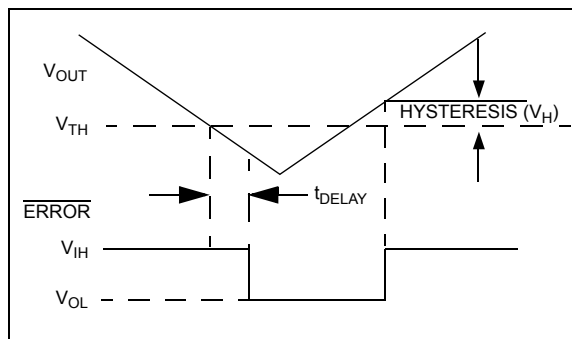

FIGURE 4-2: $\overline{ERROR}$ Output Operation.
$\overline{ERROR}$ is driven low whenever V_{OUT} falls out of regulation by more than -5% (typical). This condition may be caused by low input voltage, output current limiting, or thermal limiting. The $\overline{ERROR}$ output voltage value (e.g. $\overline{ERROR} = V_{OL}$ at 4.75V (typical) for a 5.0V regulator and 2.85V (typical) for a 3.0V regulator). $\overline{ERROR}$ output operation is shown in Figure 4-2.
- Changed Figure 4-2.